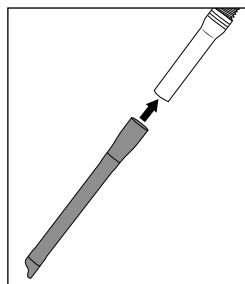

Fig. 11
- ◆ Push the crevice tool 22 onto the suction hose 23, to vacuum areas such as corners or grouting (see fig. 11).